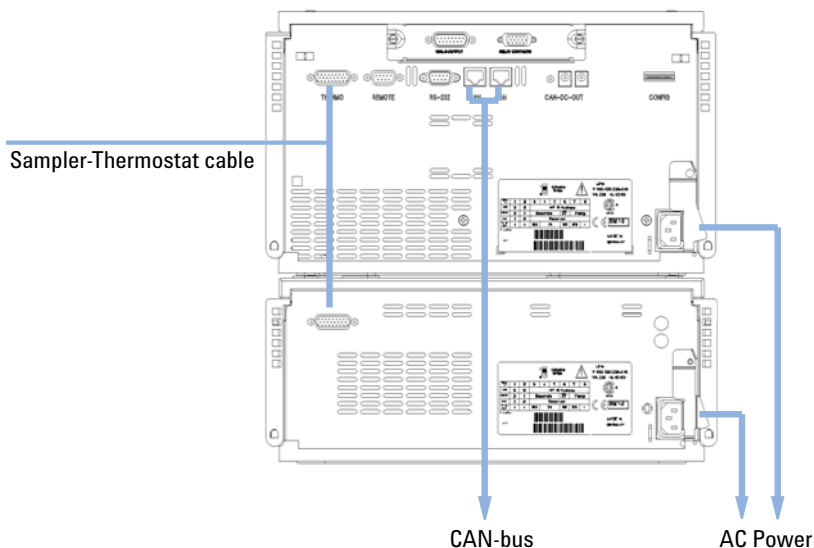

Figure 18 Connection at the rear of thermostatted Autosampler
- 13** Connect the cable between the sampler and the thermostat, see Figure 18 on page 57.